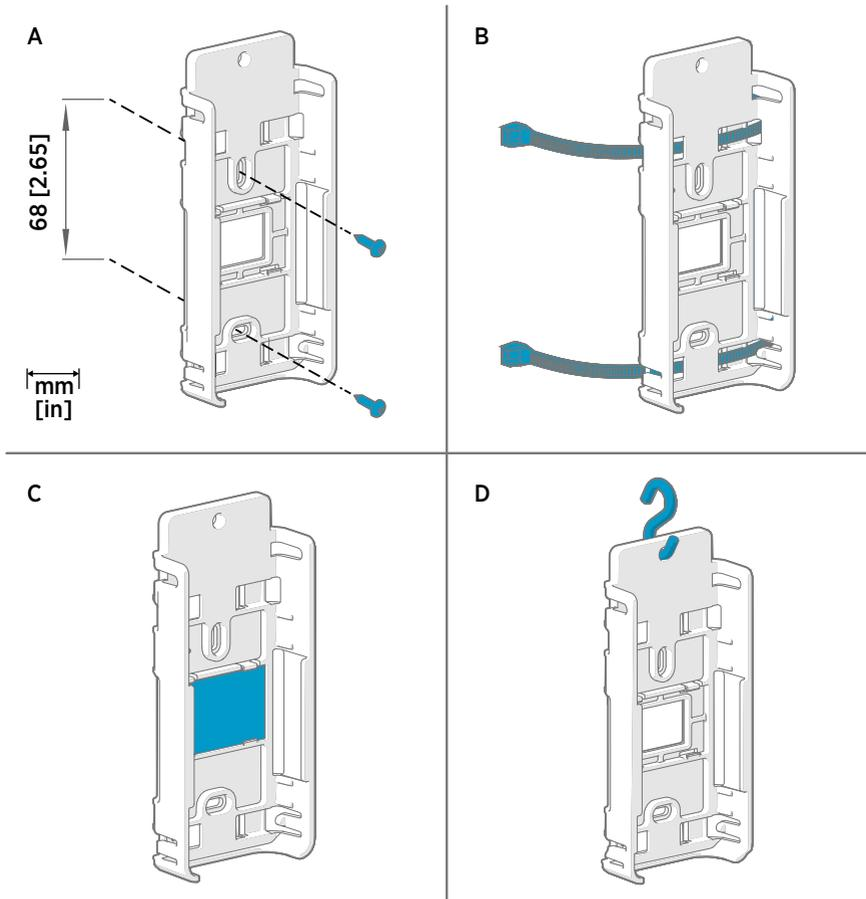

Figure 9 RFL100 Mounting Methods
- 2. Attach the mounting bracket using one of the mounting methods shown in Figure 9 \(page 21\). Orient the bracket vertically so that the probe or probe cable points down after installation. Do not attach the RFL100 without the mounting bracket.